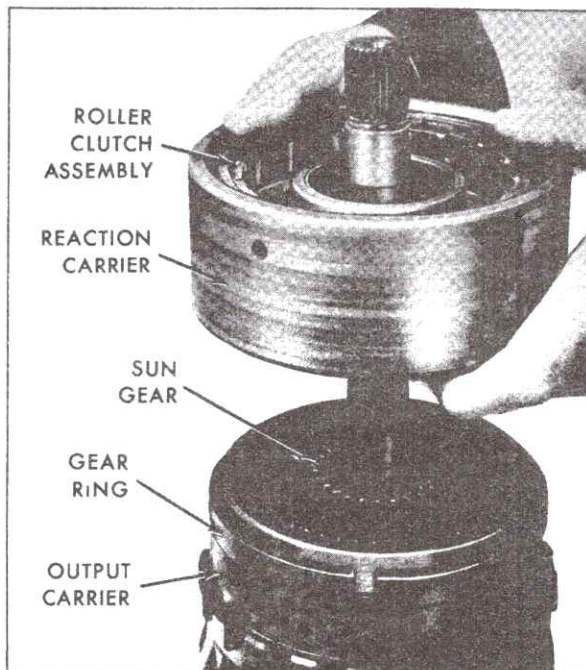

Fig. 7-47 Removing Reaction Carrier and Roller Clutch Assembly
12. Remove reaction carrier and roller clutch assembly from output carrier, Fig. 7-47, and remove roller clutch assembly from reaction carrier.